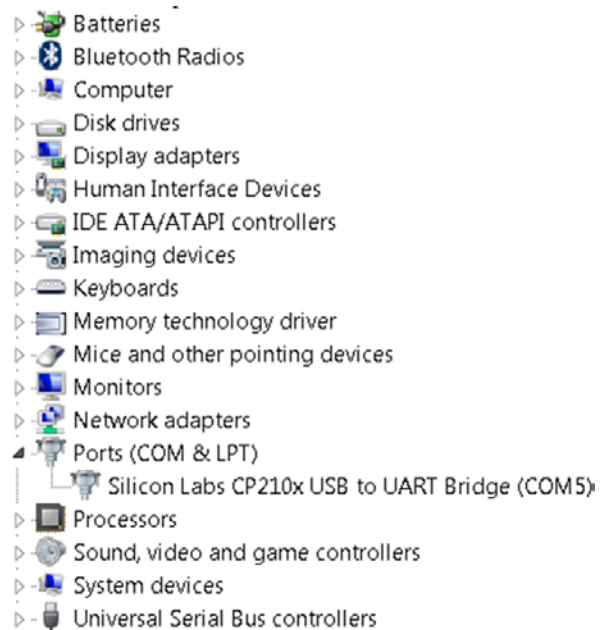

Figure 2. Device Manager Showing the COM Port Number
3. Expand the **Ports (COM & LPT)** menu item, as shown in Figure 2. **Silicon Labs CP210x USB to UART Bridge** should be listed with an assigned COM port number in parentheses.